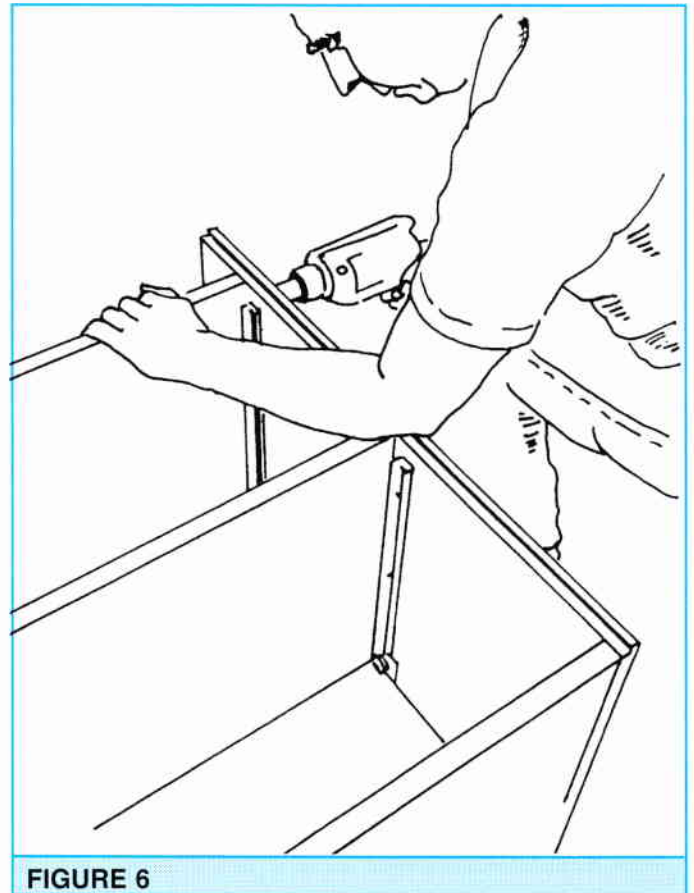

**FIGURE 5**
**4** It is most convenient to screw the fixed drawer runners to the cabinet sides at this stage. Fit the runners so that a gap of 5mm remains between each drawer runner and the shelf below. (**Figure 5**).